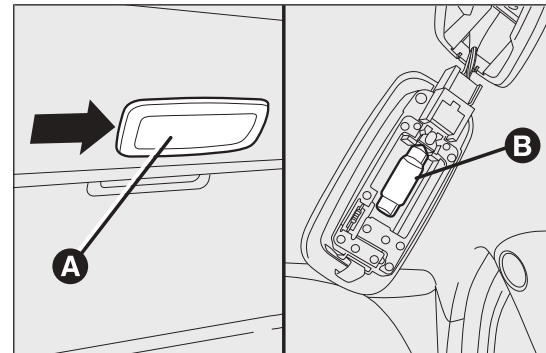

fig. 159
- operate in the point shown by the arrow and remove roof light A fig. 159;